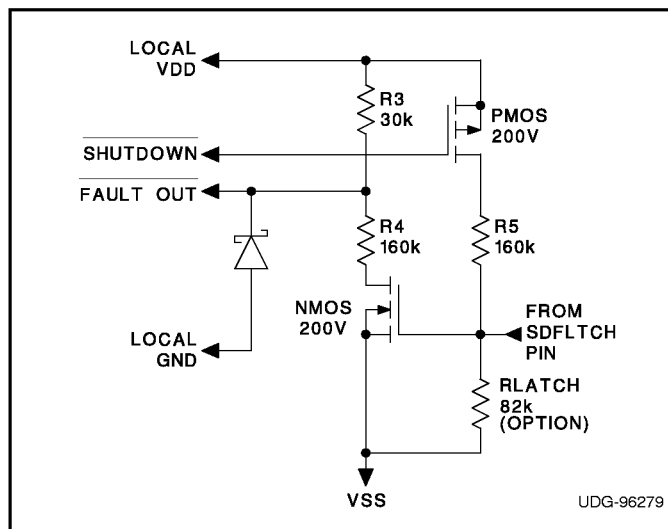

Figure 6. Possible Level Shift Circuitry to Interface to the UCC3921, showing component values selected for a typical telecom application.
Some type of circuit is needed to interface with the UCC3921 via SDFLTCH, such as opto-couplers or level shift circuitry. Figure 6 depicts one implementation of level shift circuitry that could be used, showing component values selected for a typical $-48V$ telecommunication application. There are three communication conditions which could occur; two of which are Hot Swap Power Manager (HSPM) state output indications, and the third being an External Shutdown.
- 1) When open, and under a non-fault condition, SDFLTCH is pulled to a low state. In Figure 6, the N-channel level shift transistor is off, and the FAULT OUT signal is pulled to LOCAL VDD through R3. This indicates that the HSPM is not faulted.
- 2) When a fault is detected by the fault timer or under-voltage lockout, this pin will drive to a high state, indicating that the external power FET is off. In Figure 6, the N-channel level shift transistor will conduct, and the FAULT OUT signal will be pulled to a Schottky Diode voltage drop below LOCAL GND. This indicates that the HSPM is faulted. The Schottky Diode is necessary to ensure that the FAULT OUT signal does not traverse too far below LOCAL GND, making fault detection difficult.
If a $5k < R_{LATCH} < 250k\Omega$ resistor is tied between SDFLTCH & VSS, as optionally shown in Figure 6, then the latched operating mode (described earlier) will be invoked upon the occurrence of a fault.